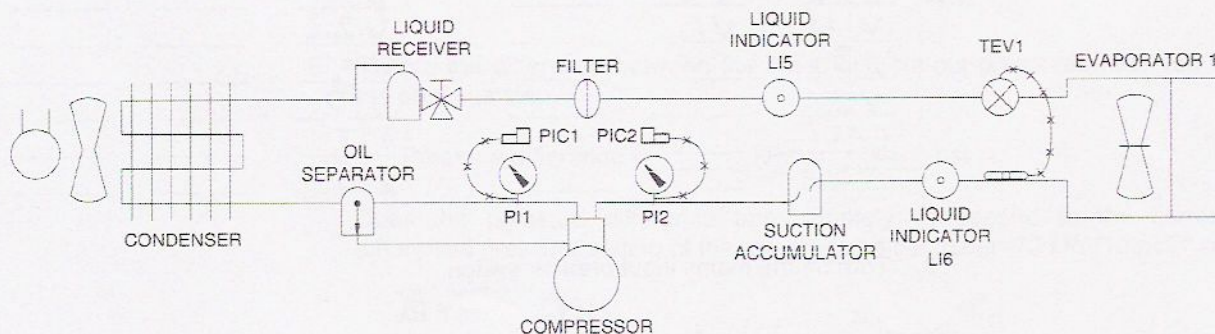

Figure 5-3. Simple refrigeration system using pressure controllers (PIC1 and PIC2).
A schematic diagram of a simple refrigeration system is shown in Figure 5-3. This diagram indicates which devices must be used to form the system. Pressure sensing points are also shown to indicate where measurements should be taken.
1. Open and close the manual valves to arrange the refrigeration system as shown in Figure 5-3. Figure A-4 in Appendix A may be used at this point to assist in the proper set-up of the system.